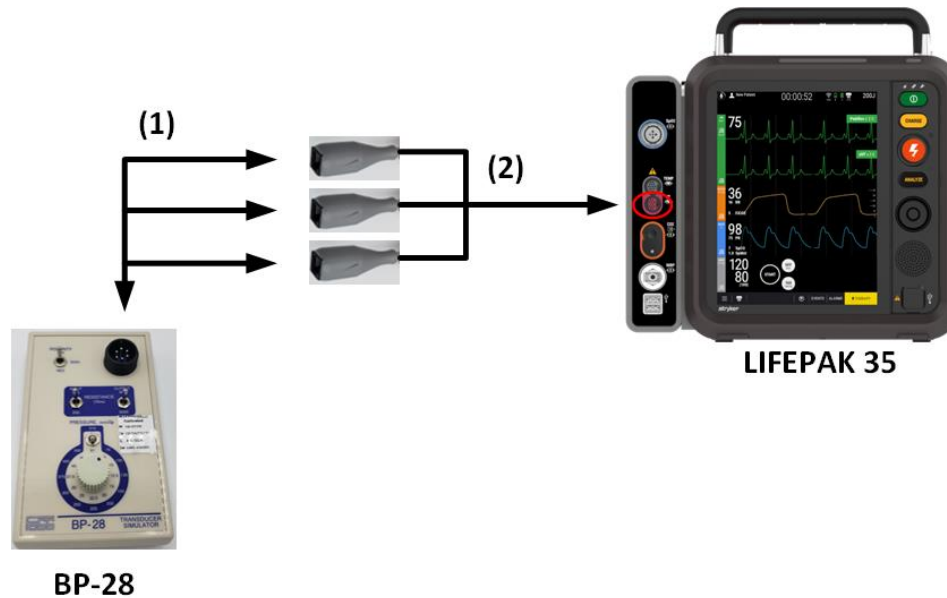

Figure 21
- b. Connect the 3344024-000 IP test cable to the BP-28 and to P1 of the 11230-000021 IP Adaptor Cable Assembly as shown in Figure 21 below:
In Figure 21: